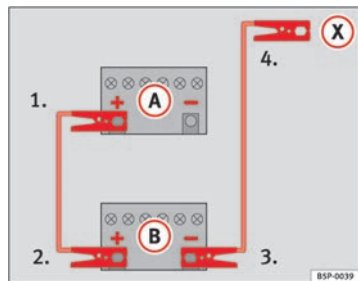

Fig. 245 How to connect the jump leads
On ⇒ fig. 245 **A** shows the flat battery and **B** the charged battery.
1. Connect one end of the red jump lead to the positive ⇒ fig. 245 terminal of the vehicle with the flat battery ⇒ .